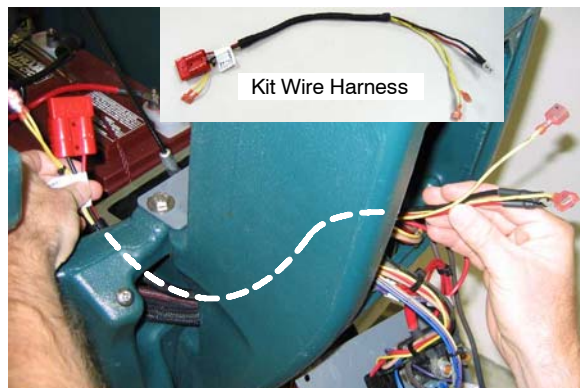

Fig. 6
7. Using the wire harness from the kit, route harness from battery compartment into console as shown (Fig. 6).